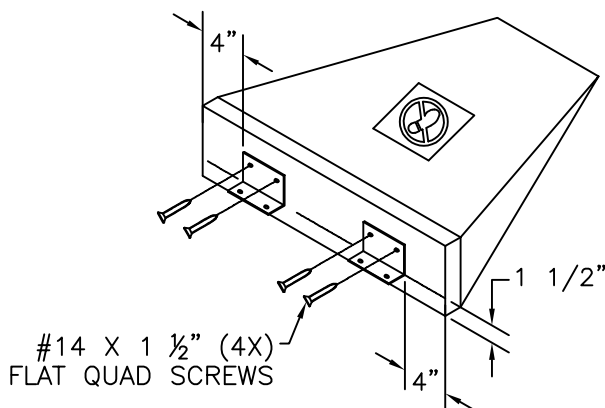

FIG. 21
- Measure 1-1/2" above bottom of each pad (**Figure 21**).